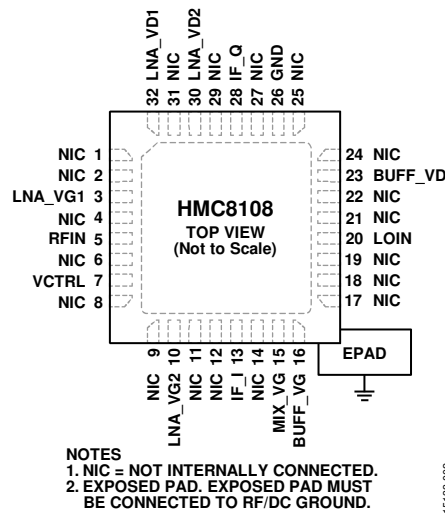

Figure 2. Pin Configuration
**Noise figure: 2 dB typical**